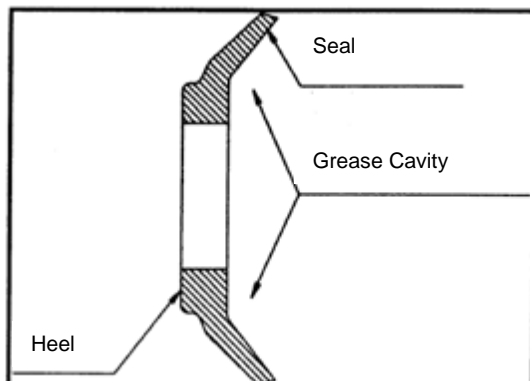

Figure 5: Cross section of rubber PenTac seal member
2. Pack the grease cavity of the rubber seal with grease using a flexible putty knife. See Figure 5 for reference.